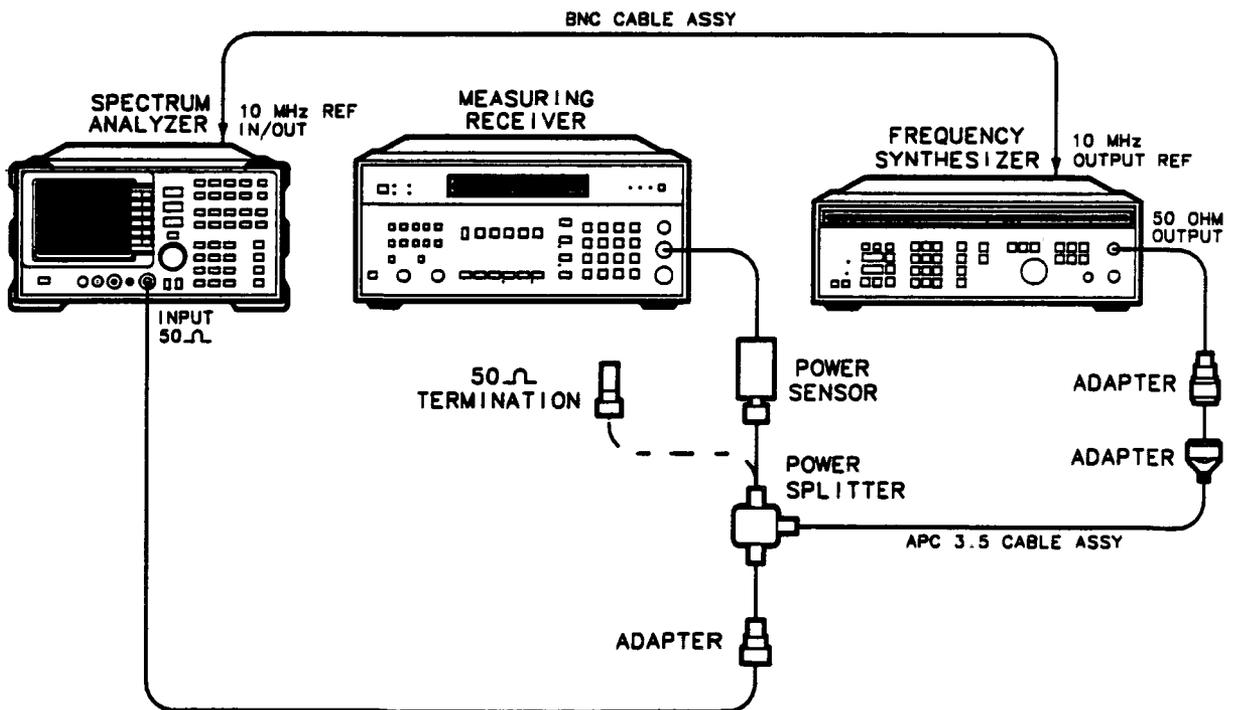

Figure 3-18. Frequency Response Test Setup, < 50 MHz
44. Connect the equipment as shown in Figure 3-18. Set the HP 3335A controls as follows: